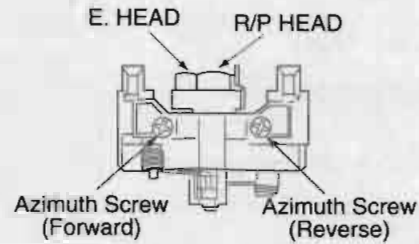

Fig. 3
3. Playback the azimuth adjustment portion(12.5kHz) of test tape(QZZ-AER). Adjust the azimuth adjusting screw until the outputs of the L/Rch are maximized. (Refer to Fig. 3.)